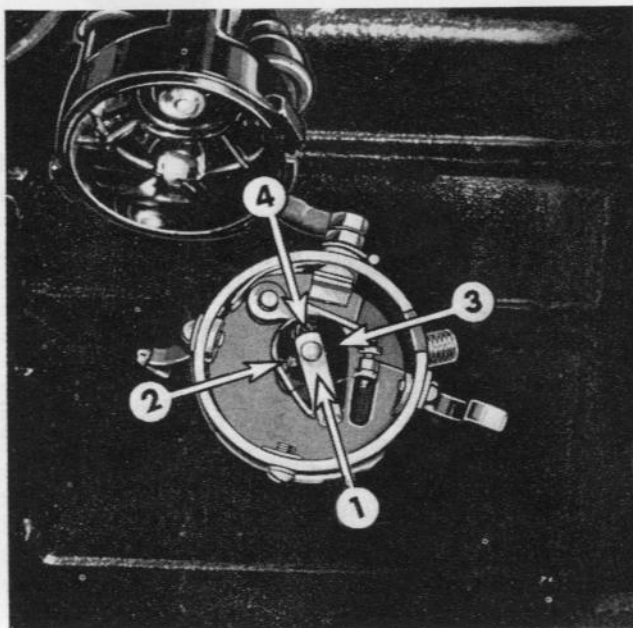

FIG. 163—FIRING POSITIONS
1. Remove high-tension wires from the distributor cap terminal towers, noting the order in which they are assembled to assure correct reassembly. No. 1 spark plug terminal tower in the distributor is the lower right hand tower at the distributor cap spring clip, starting with this tower the wires are installed in a counter-clockwise direction 1-3-4-2 as shown in Fig. 163.
Connect the primary wire from the coil to the distributor. Install spark plugs. Install spark plug wires, placing them in the distributor cap terminal towers starting with No. 1 (Fig. 163) and installing in counter-clockwise direction in firing order sequence which is 1-3-4-2. Start the engine and run it until thoroughly warm and then recheck the timing with a neon timing light. When using the neon light to set distributors equipped with vacuum advance control it is advisable to disconnect the vacuum tube to make the control inoperative, otherwise the distributor may be advanced slightly, resulting in a false setting. Do not fail to reconnect the tube.